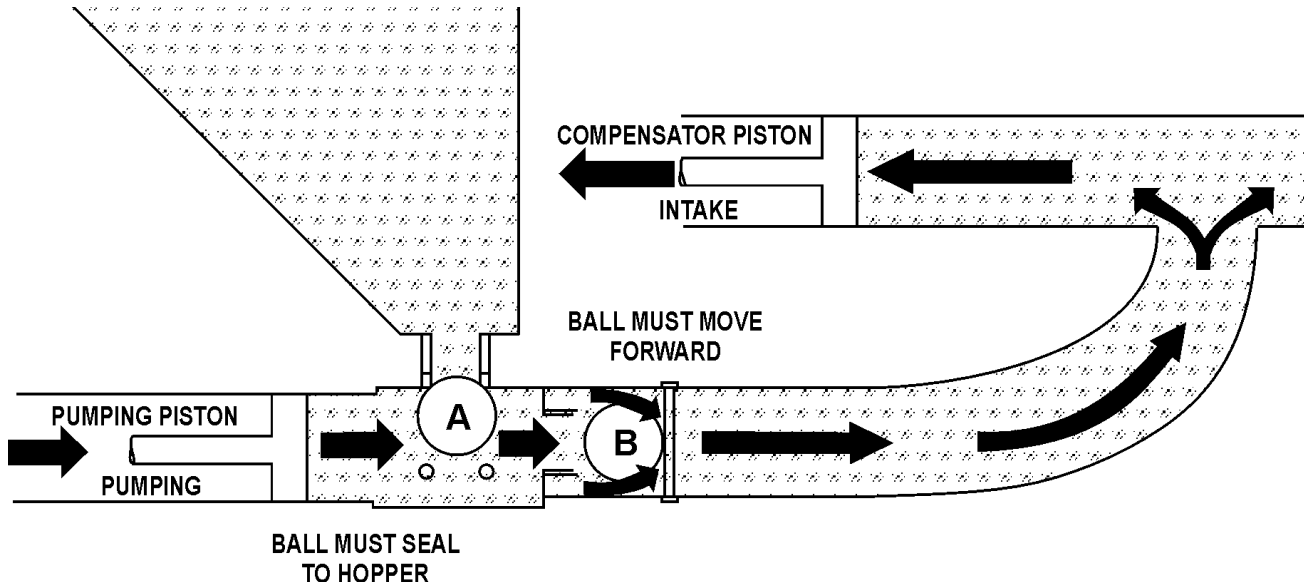

Figure 3. Pumping Pistons
The return spring is installed on the rocker arm to eliminate shock and stress between the cam roller and the cam weldment when the pump is in operation. If the return spring is removed or replaced for any reason, maintain the backing plate dimension of 3" as shown in Figure 3, to produce the proper pre-loading of the spring for a smooth performance.
The pumping piston (Figure 3) is forcing the material past ball (B) and out to the nozzle, also seating ball (A) so that the material will not flow back to the hopper. This action also fills the compensator piston for the next stroke.